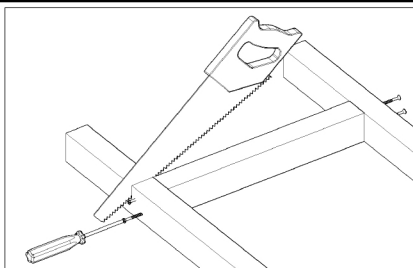

Figure 2
2. Unscrew the frame's end piece and fasten it to the right place. After that, cut the sauna bench frame and front plank to the right measure. (Figure 2)